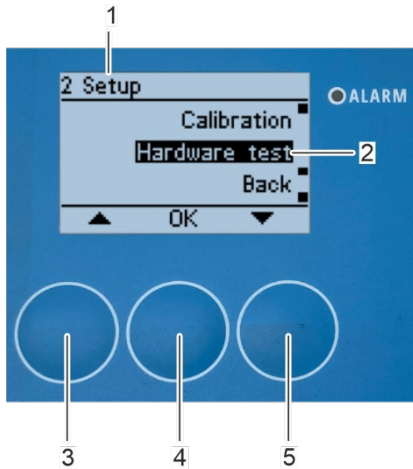

Fig. 140: Open submenu "hardware test"
1. Select the "Hardware test" submenu (Fig. 140/2) with the arrow keys [up] (Fig. 55/3) and [down] (Fig. 140/5) in "2 Setup" submenu (Fig. 140/1).
2. Confirm the selection with [OK] (Fig. 140/4).